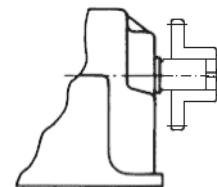
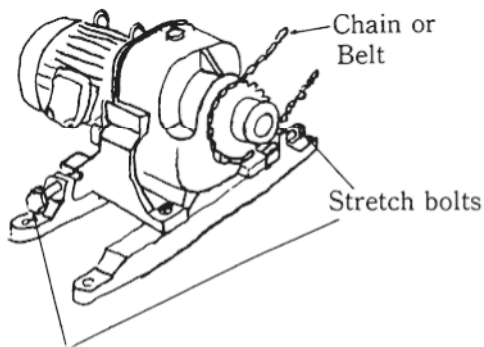

Fig. 5 Sprocket installation
Fig. 6 Slide Rail
- (4) The tolerance for the holes of the sprocket, coupling, etc. should be H8. Carefully install the sprocket, coupling etc. using the tap on the output shaft (refer to Fig.5)
- (5) Do not use a hammer for installation. Application of a large force may damage the bearings, gears, etc.
- (6) To use a slide rail, install stretch bolts across the motor in the opposite direction of the external force. (Refer to Fig. 6)